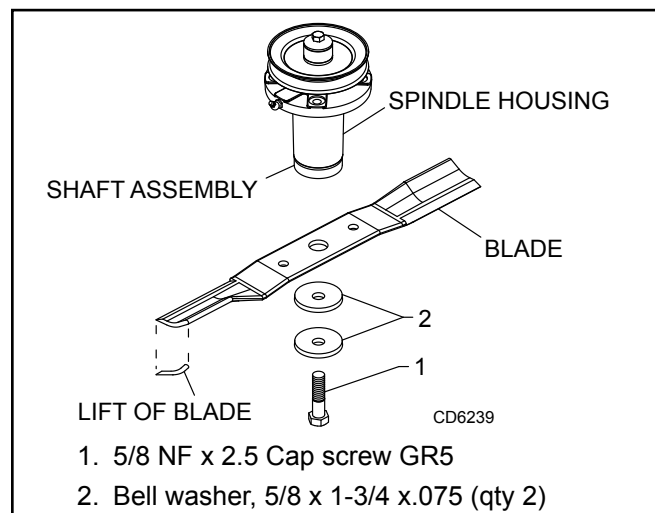

Figure 19. Blade and Spindle Assembly
1. Remove bolt (79), Figure 19, which has right hand threads.
2. Remove belville washers (78) and blade (77).
- When installing blade, the lift of the blade must be toward the spindle blade housing as shown in Figure 19. Torque bolt (79) into shaft assembly to 100 lbs-ft.
2. Place Belleville washer (78) over blade and insert blade bolt (79). Torque blade bolt to 100 lbs-ft.